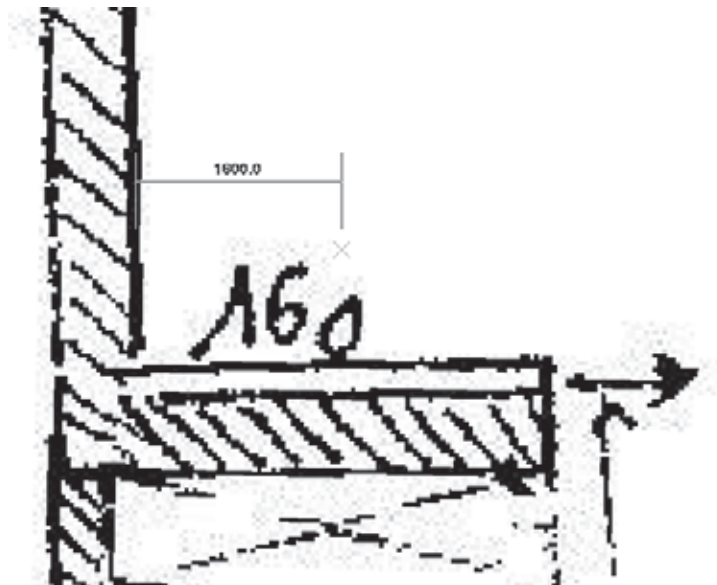

Figure 7.60
5. Click the wall and then across to the right to the end of the wall. The wall length in the scan is 160 cm and measures 3,200 cm in the drawing. Bring your mouse back to the left, and watch the temporary dimension numbers get smaller (as shown in Figure 7.60). When they reach 160 cm, click again, and your image will be resized.